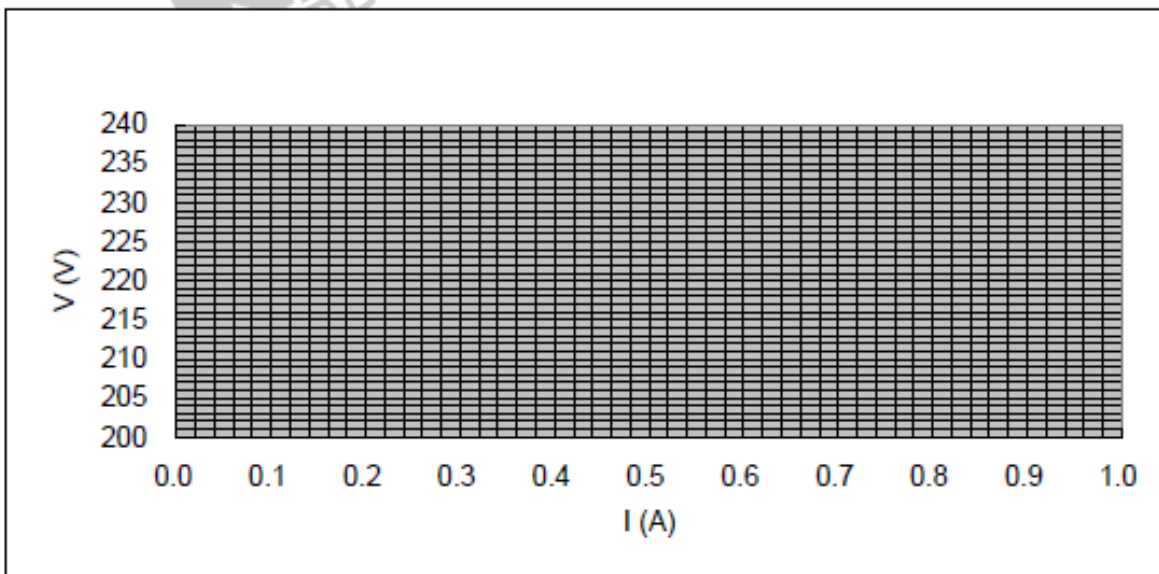

Fig. 1-4-9. The V vs I curve (inductive load)
11. Using the results of Table 1-4-2, plot the V vs I curve on the graph of Fig. 1-4-9.